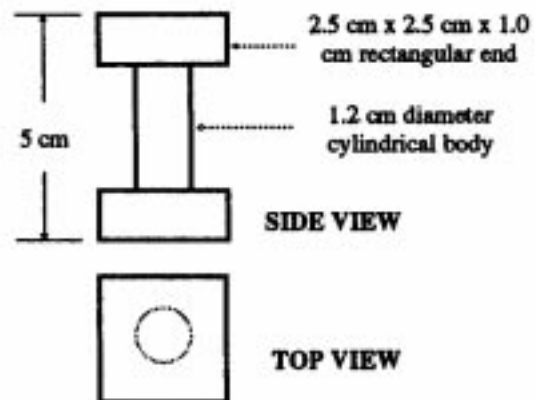

Figure 4: Trash-Bin Dimensions
- 3.1 The trash-bin shall be a 5-cm high dumb-bell shaped wooden post with a 1.2 ± 0.2 cm diameter cylindrical body and 2.5 cm x 2.5 cm x 1 cm rectangular ends. (See Fig 4). It shall be painted red on all sides. The weight of the trash-bin shall not exceed 15 grams.